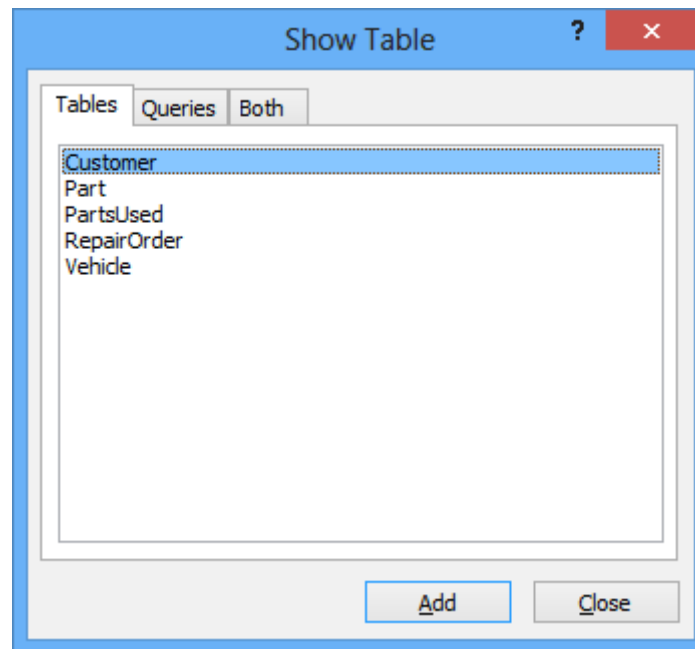

Figure 50: Show Table Window
2. **Add Tables Not Shown:** You may still need to add the remaining tables not shown in the Relationships window. In the ribbon's Design group, click **Show Table** and a window will appear listing the available tables as shown in Figure 50. For each table that you want to add, select it and click the **Add** button. (For this exercise, this step is not necessary.)
4. **Link Tables:** When all of the tables are in the Relationships window, there may not be connecting lines between all of the tables. (In this situation, lines connect all of the tables.) But if you had to create relationships between the tables, drag the primary key field from the parent table to the child table that contains the parent table's primary key. For example, (although these tables are already linked) you would have dragged the *Customer* table's *CustNo* primary key field to the *Vehicle* table's *CustNo* foreign key field. A connecting line would appear as in Figure 50. Each time you do this, the Edit Relationships dialog appears (Figure 52).
- Open the Relationships Window: In the ribbon's Design group, click **Show Table**. A dialog box appears listing the available tables, as shown in Figure 50. For each table, select it and click the **Add** button.